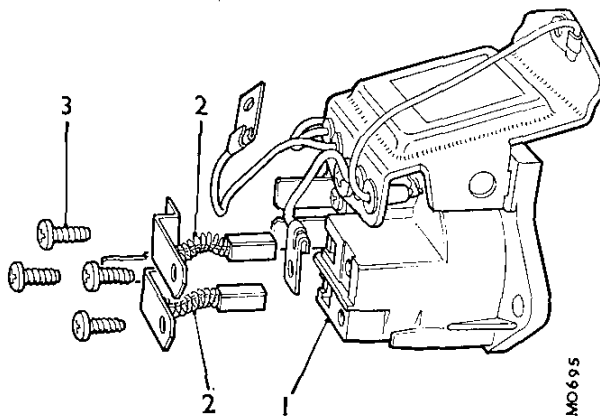

Fig. Nb.16
- (25) Check the brushes for wear by measuring the length of brush protruding beyond the brushbox moulding. If the length protruding is $\cdot 2$ in. (5 mm.) or less, the brush must be renewed.
- (26) Check that the brushes move freely in their holders. If a brush shows a tendency to stick, clean it with a petrol- (gasoline-)moistened cloth or, if necessary, polish the sides of the brush with a fine file.
- (27) Check the brush spring pressure using a push-type spring gauge. The gauge should register 7 to 10 oz. (198 to 283 gm.) when the brush is pushed back until its face is flush with the housing. If the gauge reading is outside the limits given, renew the brush assembly, as shown in Fig. Nb.16.